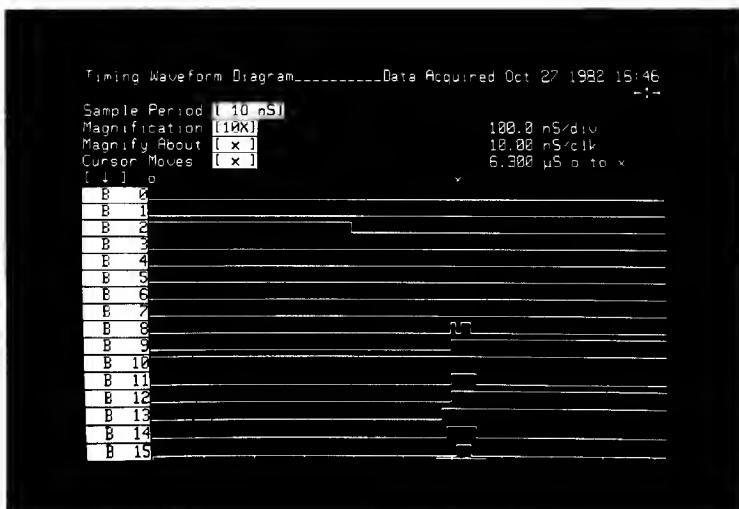

Figure 3-13. Magnification Around “x”
6. Press the NEXT[] key several times to see that magnification of the display occurs around the area in memory you selected by the position of “x”. See figure 3-13.